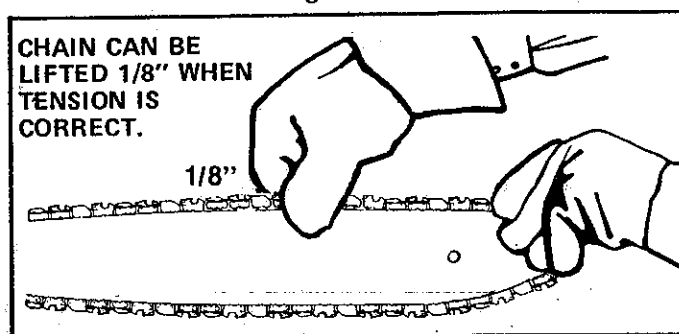

Figure 15
2. Check the tension by lifting the chain from the Guide Bar at the center of the bar. Figure 15.